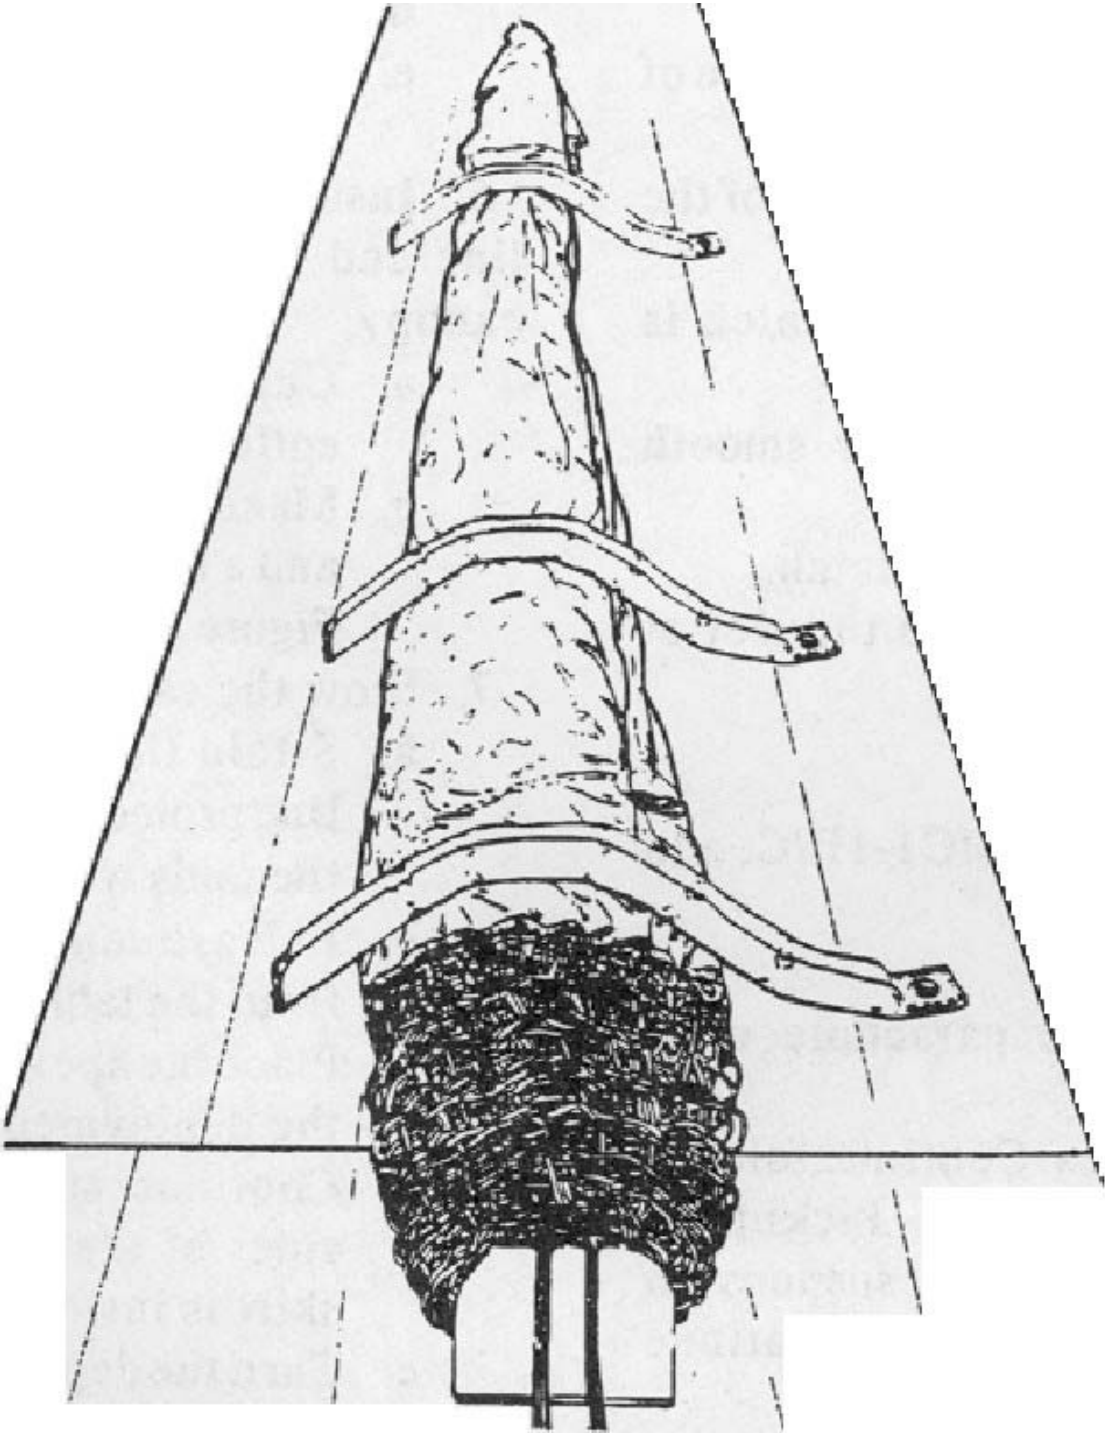

Figure 3-2
5. Place the canopy in longfold. (See Figure 3-2)